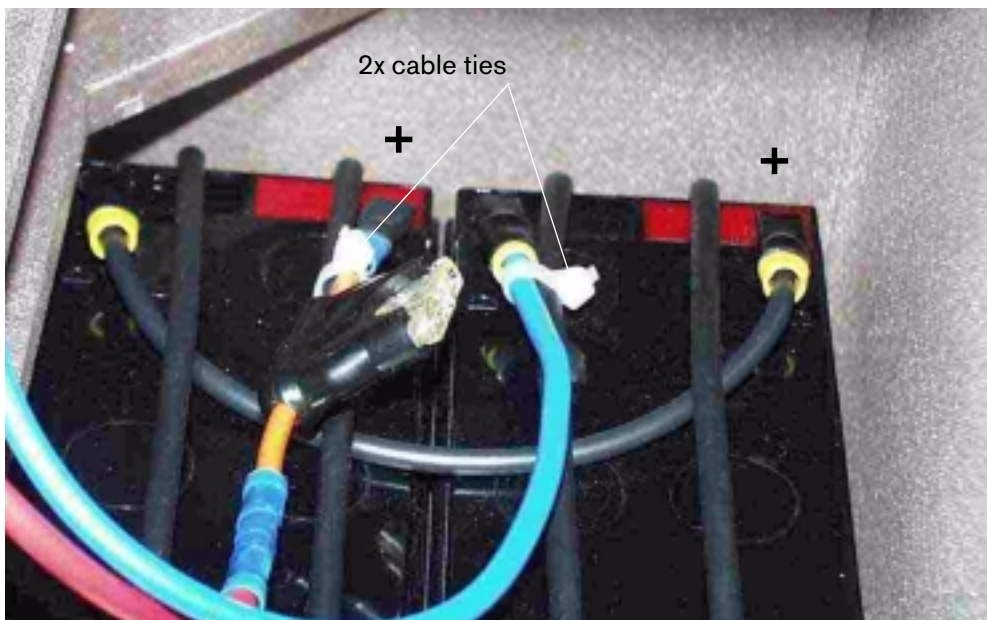

Fig.197: Connecting connection cables and fastening with cable ties
- When connecting the battery supply conductors, make sure the polarity is correct (see Fig. 197:).